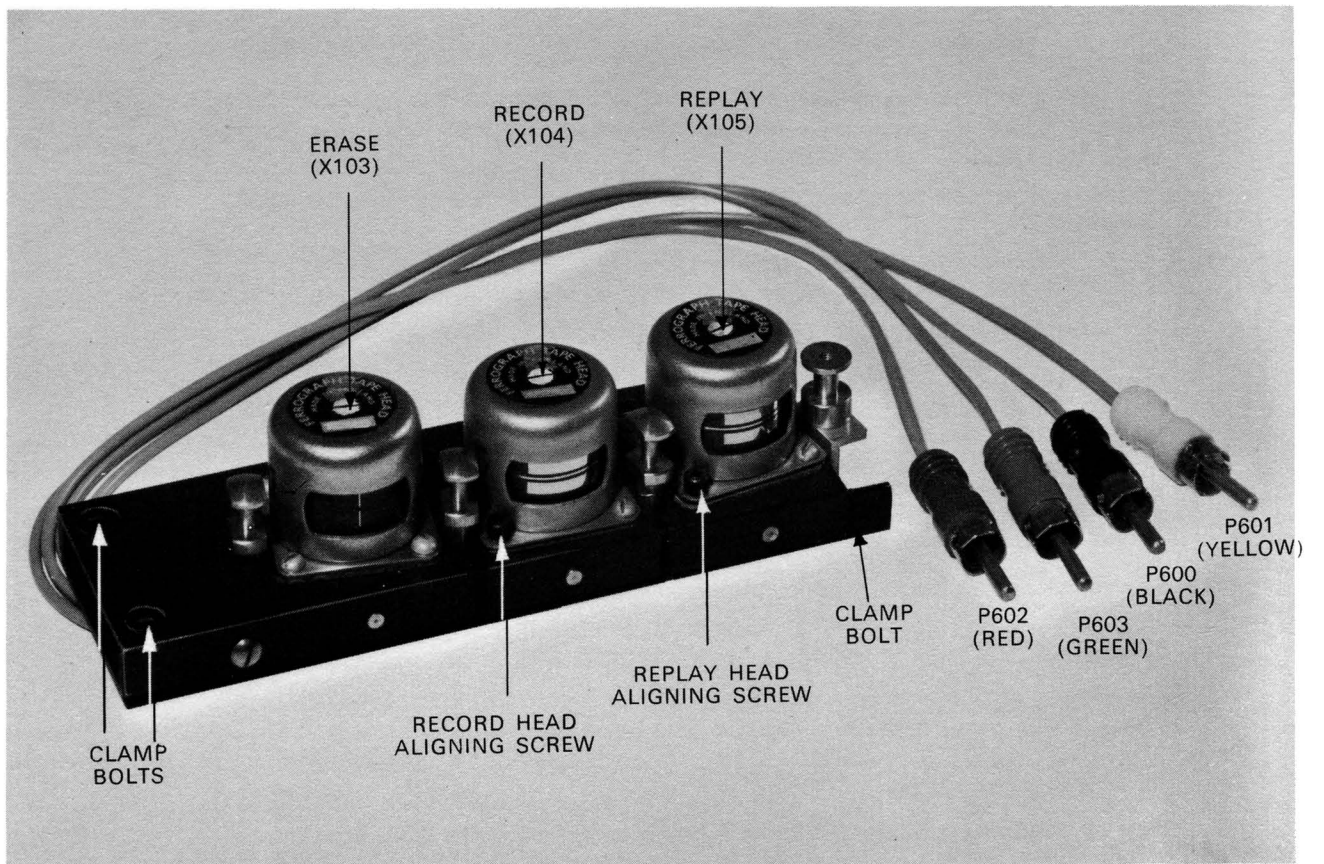

FIG. 9. HEAD ASSEMBLY
Removal/replacement of heads (Fig. 9)
- 339 To replace a head, reverse the removal procedure, ensuring that the springs are refitted to the *Record* and *Replay* heads. After a *Record* or *Replay* head has been replaced (or refitted) and the head block remounted, it must be re-aligned correctly. The socket-headed aligning screw (Fig. 9) should be set so that the head cap appears vertical, then the height checked as in Fig. 12. The head height is adjusted by inserting or removing thin shims of B.P. (or non-magnetic material) between the head and its mounting plate, and retightening the fixing screws. As the head face must remain vertical, shims of equal height must be inserted front and rear. The gap azimuth alignment should then be set accurately as in paragraph 420 or 426.